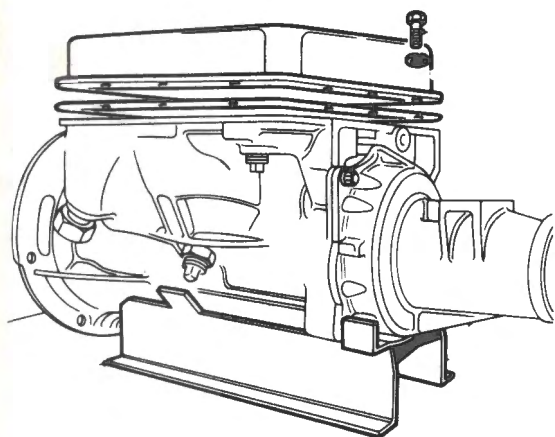

Fig. M-65
- 2 Clean the exterior casing with kerosene, invert the unit and place on stand BWA35. Fig. M-65.